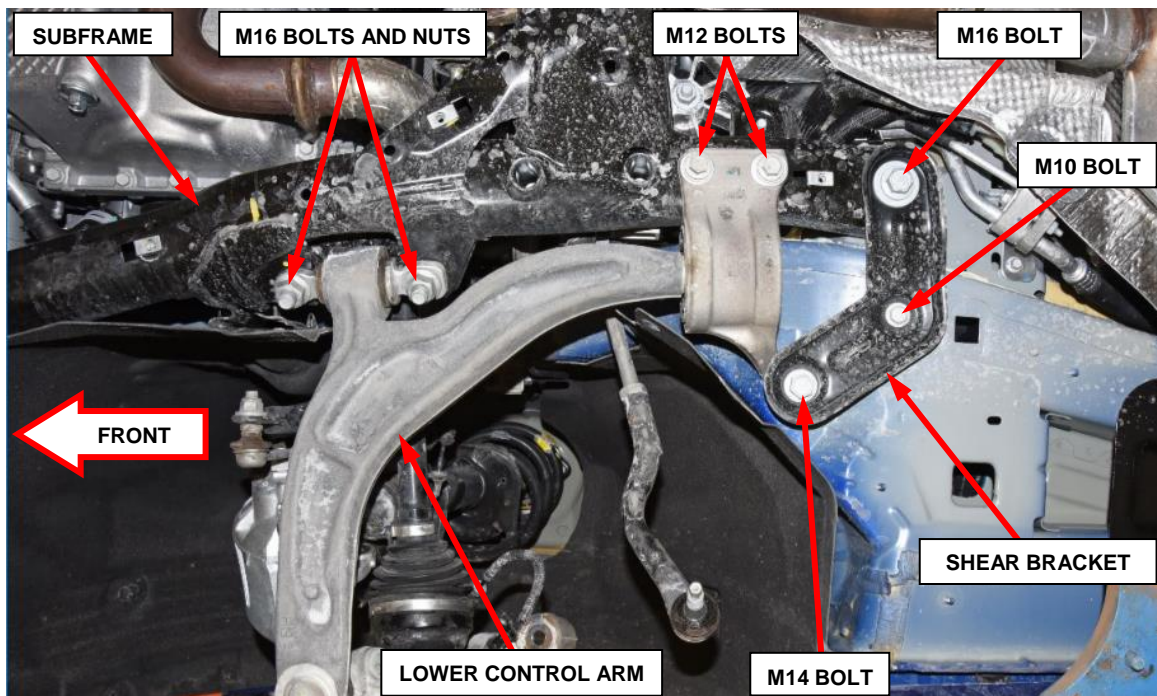

Figure 13 – Right Front Lower Control Arm Fasteners
15. Remove and DISCARD the three bolts M10, M14, M16 securing the shear bracket. Remove and SAVE the shear bracket (Figure 13).
16. Remove and DISCARD the two M12 bolts securing the rear of the lower control arm to the subframe (Figure 13).
17. Remove and DISCARD the two M16 nuts and bolts securing the front of the lower control arm to the subframe (Figure 13).